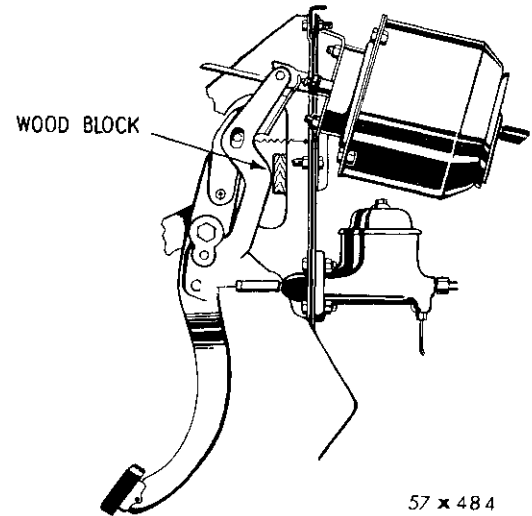

Fig. 45—Removal of Power Brake Unit
(1) Insert a wooden block or wedge between the power lever and the bracket (Fig. 45). (The use of a wedge or block will prevent damage to the ramp of the trigger arm.)
(2) Scratch alignment marks across the power unit adjacent to the vacuum test port, and across the mounting bracket and between the mounting bracket and the fire wall.
(3) Disconnect the vacuum hose from the end of the power unit.
(4) Remove the master cylinder push rod eye bolt from the pedal.
(5) Remove the stop light switch wires and master cylinder brake tube from the master cylinder.